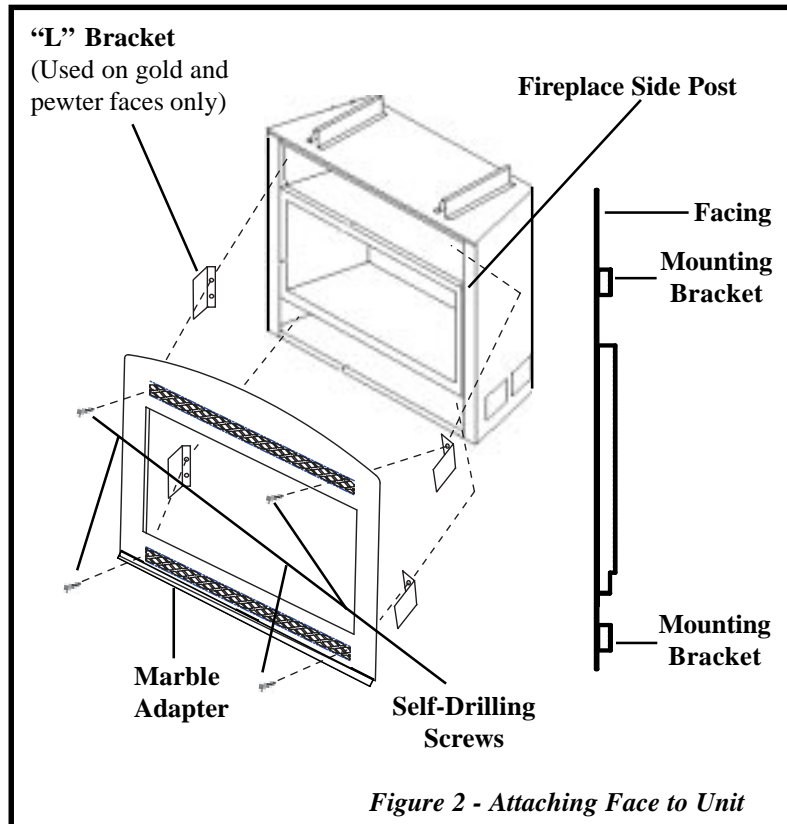

Figure 2 - Attaching Face to Unit
4. Install arch face by positioning the mounting bracket on back of the face in between the fireplace side post. (Note location where you removed top louver) Using four self-drilling screws, screw through the top and bottom holes on mounting bracket of the arch. If installing Gold or Pewter faces, "L" Brackets are used to hide the Gold or Pewter reflective material from the front of the fireplace (See Figure 2)